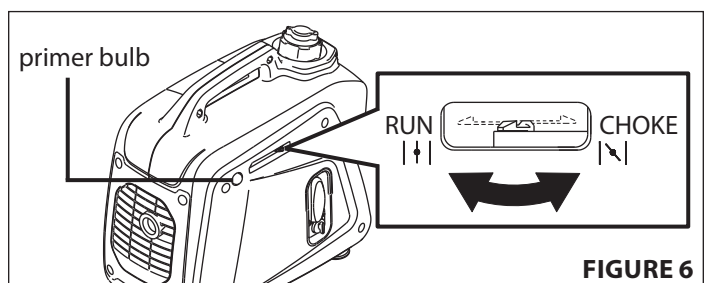

FIGURE 6
4. Press the primer bulb six times with the choke in the **RUN** position. **SEE FIGURE 6**
5. Move choke lever to the **CHOKE** position. **SEE FIGURE 6**
8. Move choke lever back to the **RUN** position. **SEE FIGURE 6**